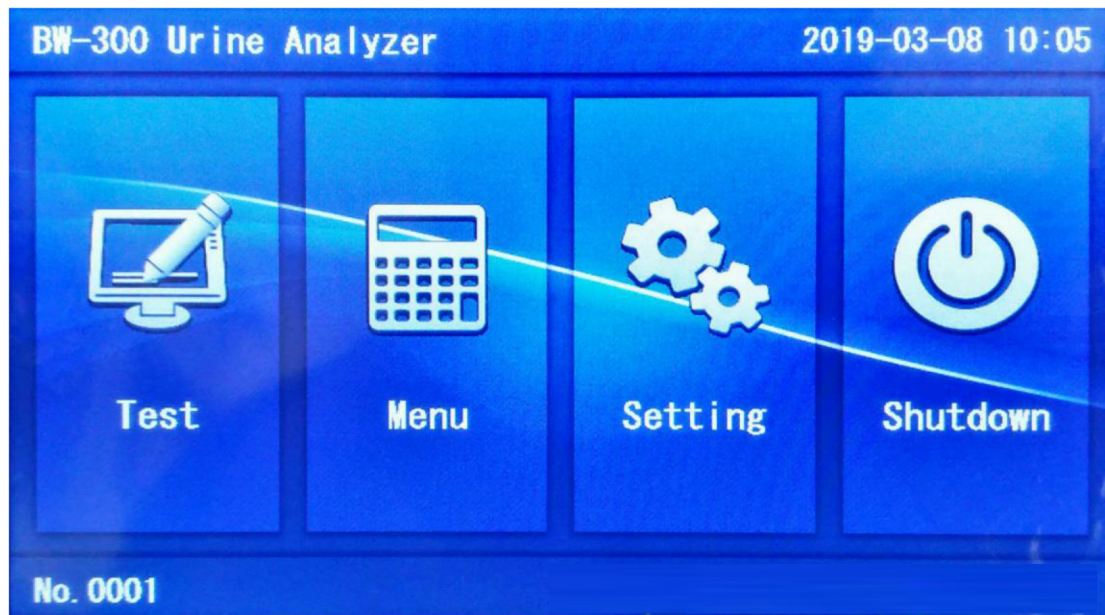
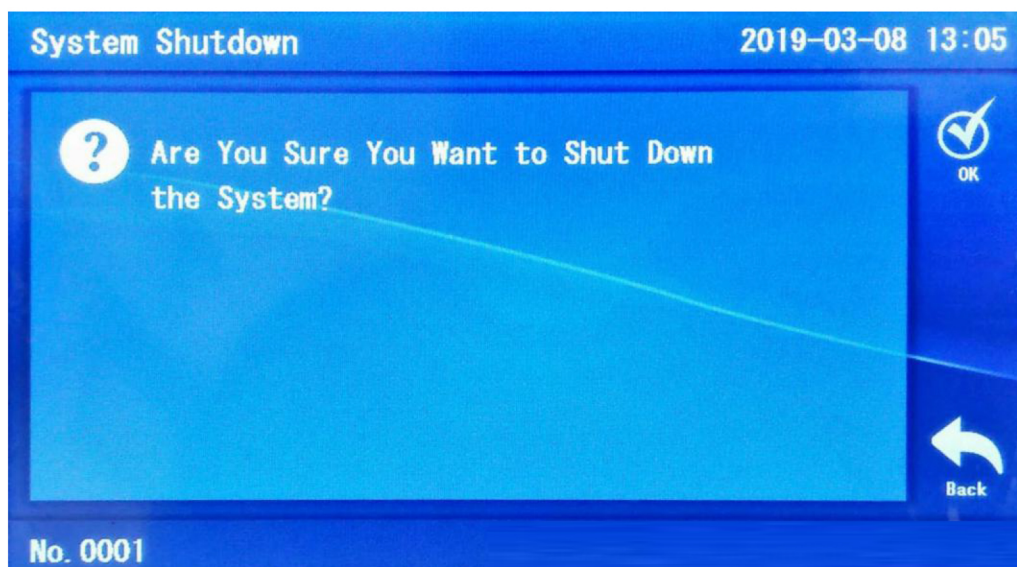
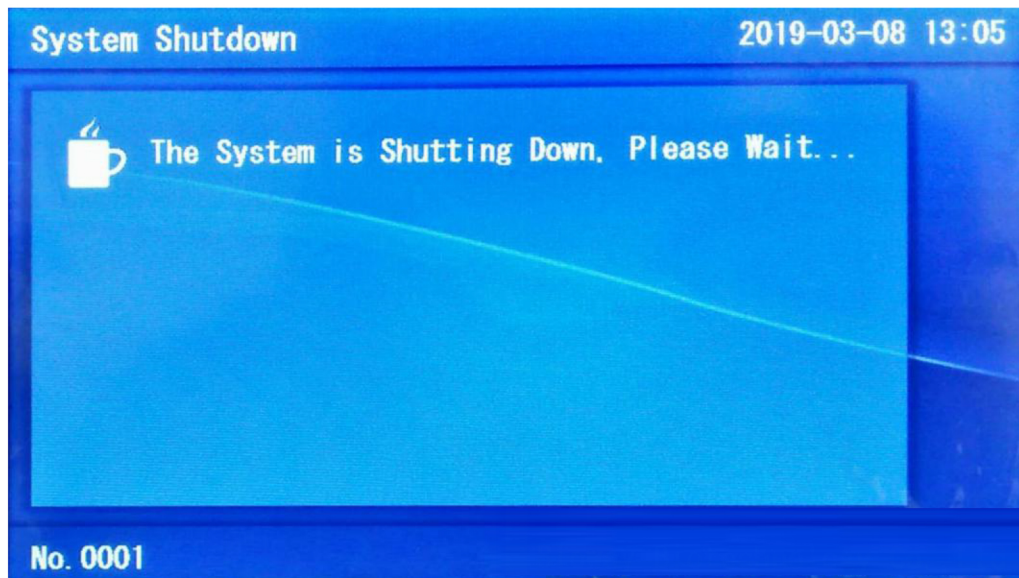
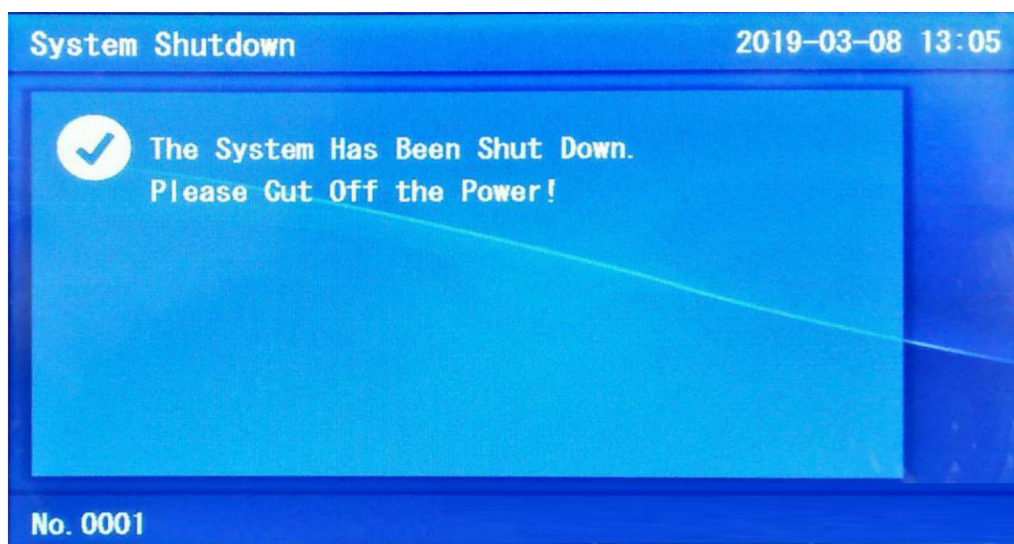

Figure 2-2
Figure 2-3
Figure 2-4
Figure2-5
**2.4.3** After passing the self-test, the main menu will be displayed on the display screen: (Figure 2-2)
After the completion of daily test work, you can click the  on the right side in FIG. 2-2. There is a prompt as shown in FIG. 2-3 on the screen."As shown in Figure 2-4, a few seconds later, the prompt" the system has been shut down, please cut off the power!As shown in figure 2-5, the power can be turned off.